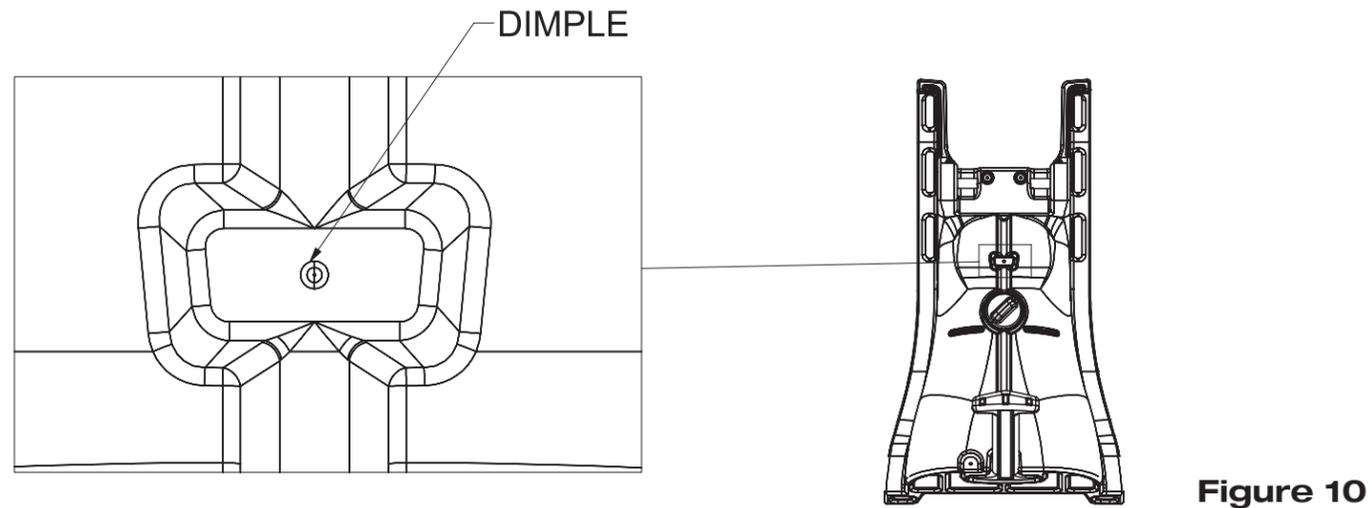

Figure 10
6. Install the second hose clip in the recess on the back side of the ladder shown in Figure 10.